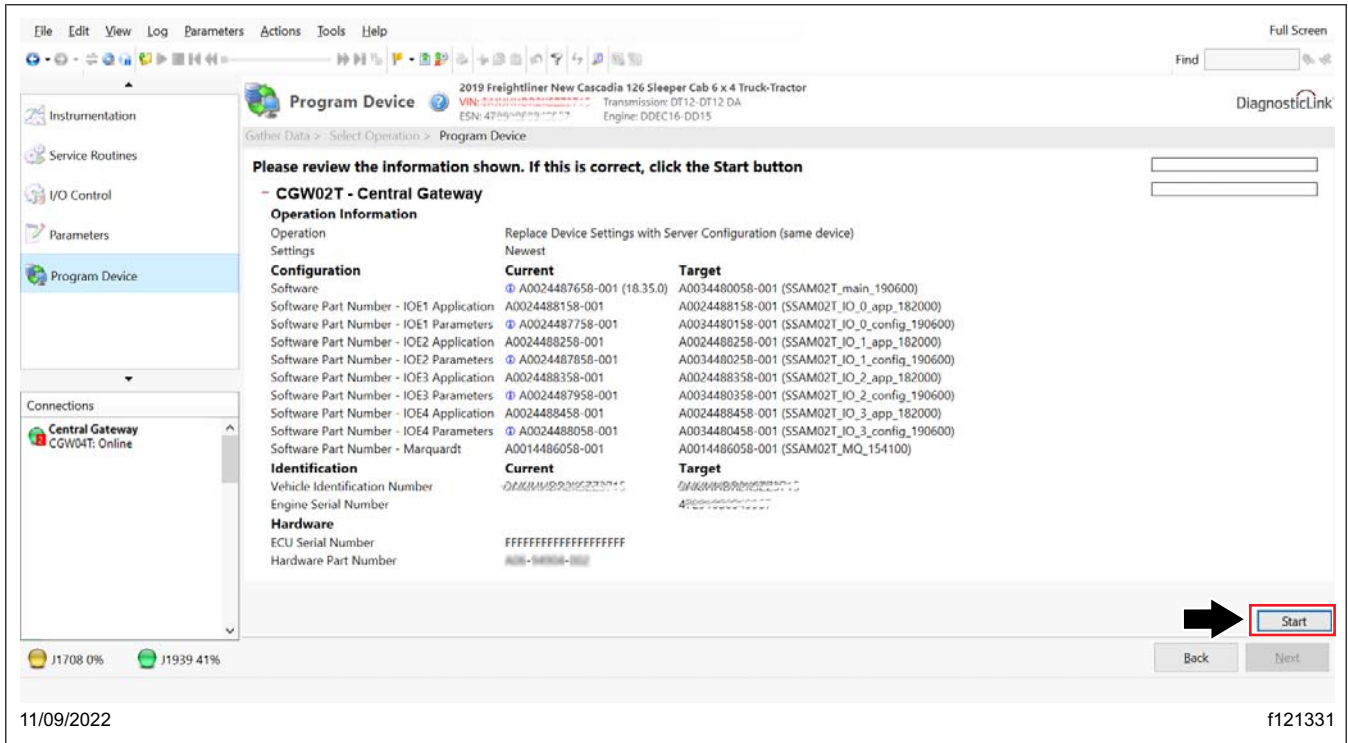

Fig. 12, Starting to Flash CGW
17. Verify the VIN and hardware part number, then select 'Start' to program the selected device. See Fig. 12.